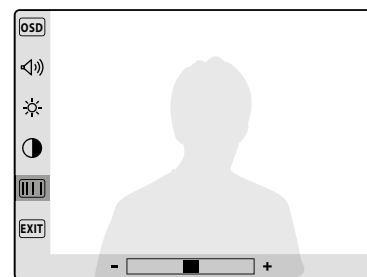

Fig. 20
- The picture hue (8 levels, **Fig. 20**);